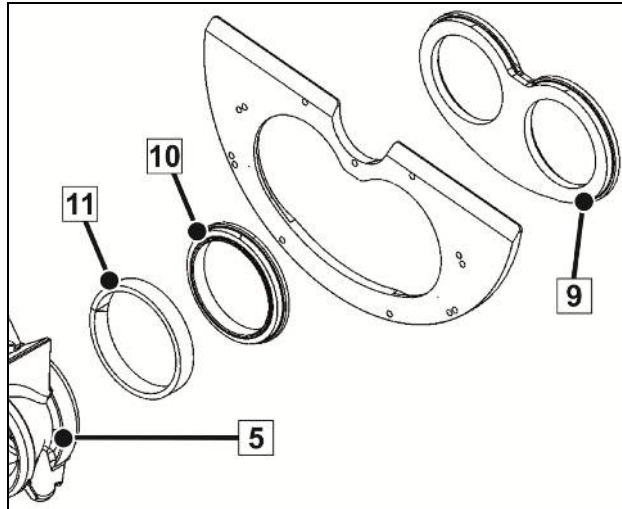
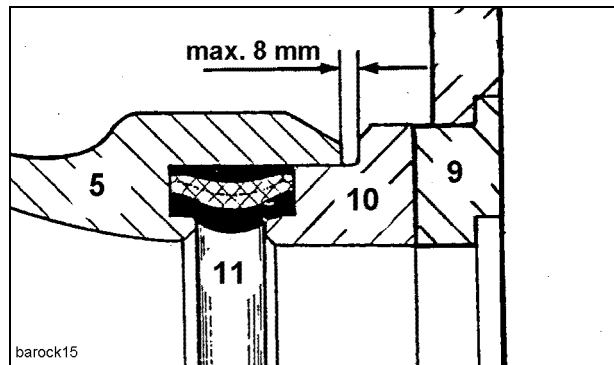

Fig.: 14
Fig.: 15
- After each turn of the cutting ring, check the distance between cutting ring 10 and rock 5 (Fig.: 14 - Fig.: 15).